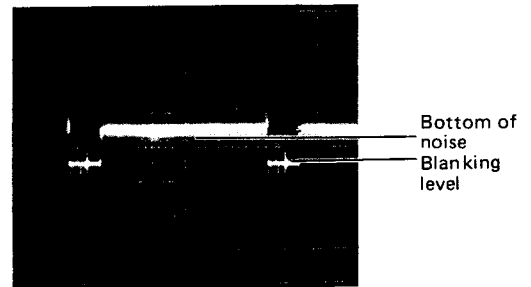
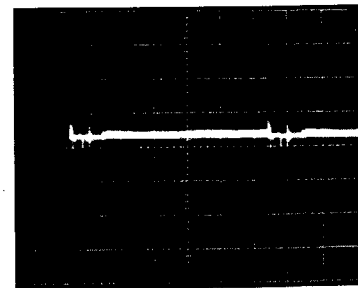

Fig. 5-6-21
Fig. 5-6-22
- o Connect the oscilloscope to TP9 (G OUT) and trigger the oscilloscope at H rate (Use TP9 (BL), Deflection board).
- o Turn VR2 (G PEDESTAL) on the Process VIC1 board counterclockwise to observe the signal as shown in Fig. 5-6-21. Turn back VR2 (G PEDESTAL) on the Process VIC1 board until the pedestal level is zero (The blanking level just touches to the noise.). (Fig. 5-6-22)